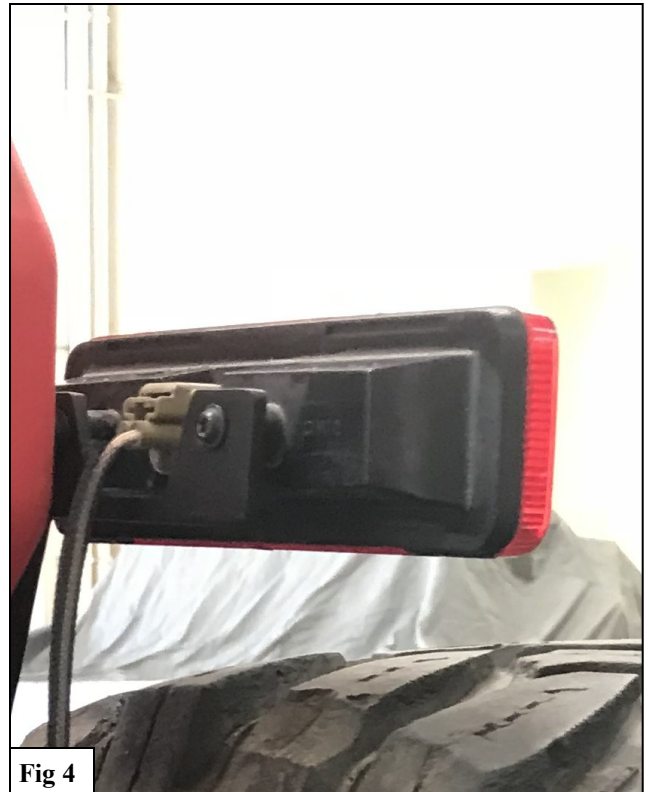

Fig 4
6. Use the factory screws to fasten the OEM third brake light to the Light Bracket (2). See **Figure 4**.